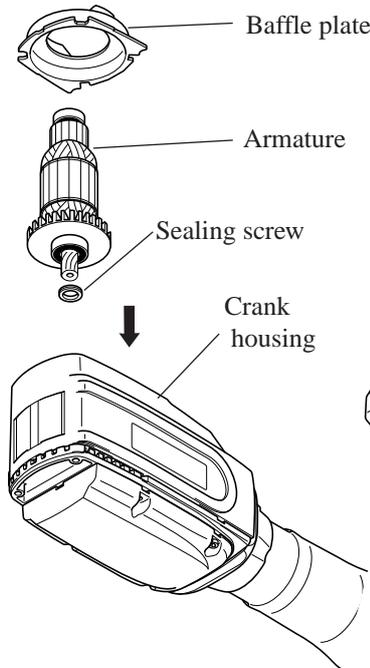

Fig. 7
- (1) Make sure that sealing screw has been previously mounted to armature. Mount armature and then baffle plate to crank housing. See Fig. 7.